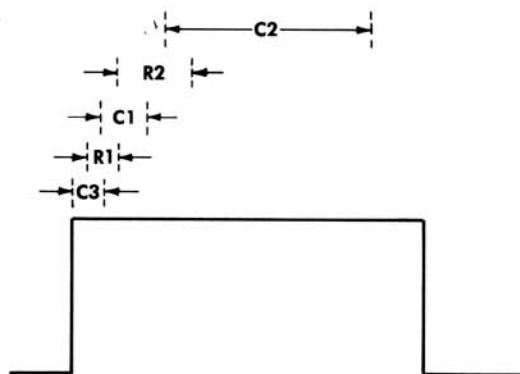

Fig. 2-1. Pulse area affected by each compensation adjustment.
The P6015 Compensating Box contains seven adjustable components. All except R5 (see schematic) vary the time constant of RC networks. The adjustable components and their effect on a 1-kc square wave (see Fig. 2-1) are as follows:
Compensation can be checked by displaying the oscilloscope calibrator 100-volt output through the P6015 Probe. Adjust the oscilloscope controls (0.05 volts/div, sweep rate 0.5 msec/div) to display a waveform similar to Fig. 2-1. If the waveform has aberrations, compensation is necessary. If the aberrations cannot be corrected by making minor adjustments, proceed as follows:
3. Set the sweep rates for 50 μ sec/div and display the leading corner of the square wave. Adjust R1, C3, and C1 for the sharpest leading corner without overshoot (see Fig. 2-1). Each may have to be adjusted several times for the sharpest corner. Maintain 2 divisions of deflection at the leading edge. The R1-C3 combination affects the very corner and C1 affects the area immediately following with some overlap.